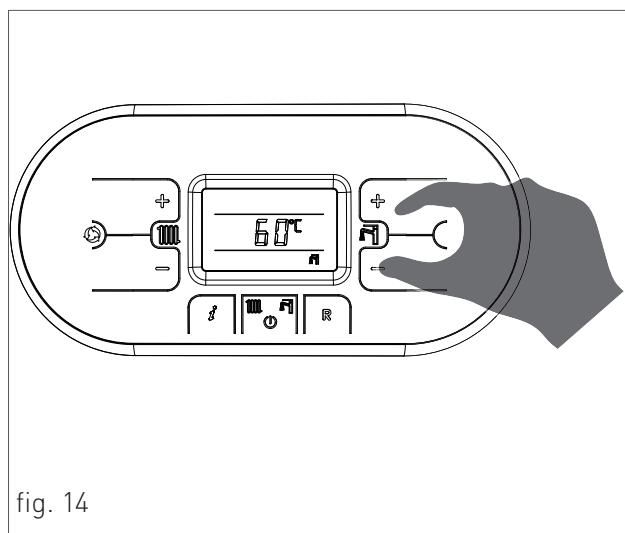

fig. 14
- › Set the temperature setpoint of the D.H.W. tank by pressing ‘+’ and ‘-’ the sanitary (fig. 14).